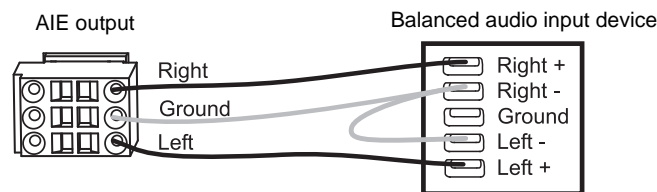

FIG. 61 Wiring from AIE to balanced audio input device if buzzing occurs
- If extracted audio buzzes when connected to a balanced audio input device, wire the AIE connector as follows: AIE L to device L+; AIE R to device R+; AIE ground to device R-; and a jumper from device R- to device L- (see FIG. 61 below).
The wiring in FIG. 61 can be used if the extracted audio buzzes when connected to a balanced audio input device.